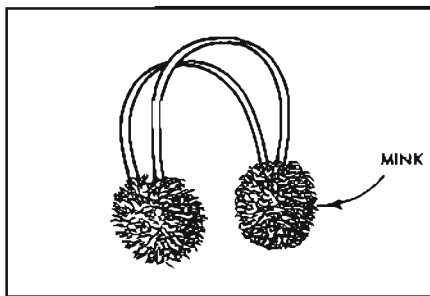
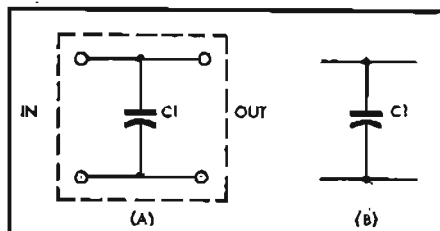

Fig. 2. Device developed to eliminate over-accentuated bass.
Fig. 1. Triangle-elimination network.
An example of such a useful adjunct to a hi-fi system is shown in *Fig. 1*. This device was developed by the author in response to a complaint made by a neighbor, who had invested twelve hundred dollars in a hi-fi system, and was fatigued by the sound of triangles, the musical instrument used to a great extent in swing music and Tchaikowsky. (A) shows the device developed by the author for the almost complete elimination of the sound of the triangles. The value of C , is not given, as this would depend on the associated circuitry, and may be best determined by experiment. (B) shows the connection in the circuit.
The author has devised a simple mechanical device to relieve aural fatigue resulting from this condition. *Figure 2* shows a set of ear-muffs made by modifying a conventional hi-fi headset.
The TFM-151, however, sets a new standard for quality performance in a transistor portable. It uses fifteen transistors in a unique assortment of PNP and NPN types—eight in the FM tuner section, three in the AM tuner, and four in the a.f. amplifier. The entire unit, shown in Fig. 1, measures $3 \times 8\frac{1}{4} \times 9$ in. and weighs only $5\frac{1}{2}$ lbs. It is powered by four "D" cells with a total of 6 volts.
The Sony TFM-151 is the world's first transistorized AM/FM portable, and Sony deserves praise for both the design and construction. Figure 2 is an internal view of the printed-circuit construction. The AM "front end" is at the left of the gang capacitor, while the FM i.f. strip is the section just above the speaker magnet. The set could well serve for a model for any transistorized construction. A-24
Fig. 1 (left). Sony TFM-151 AM/FM transistorized portable. Fig. 2 (right). Interior of 15-transistor receiver. Note speaker magnet frame projecting through opening in printed-circuit panel.